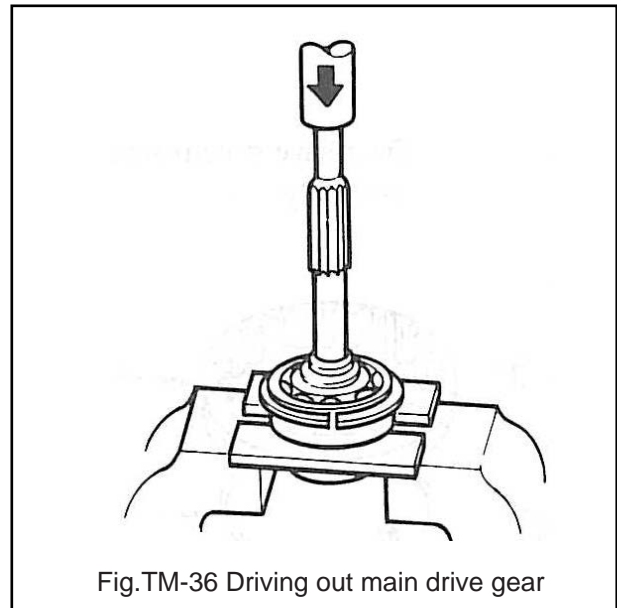

Fig.TM-36 Driving out main drive gear
2.Remove main drive gear bearing by using suitable press. See Figure TM-36.